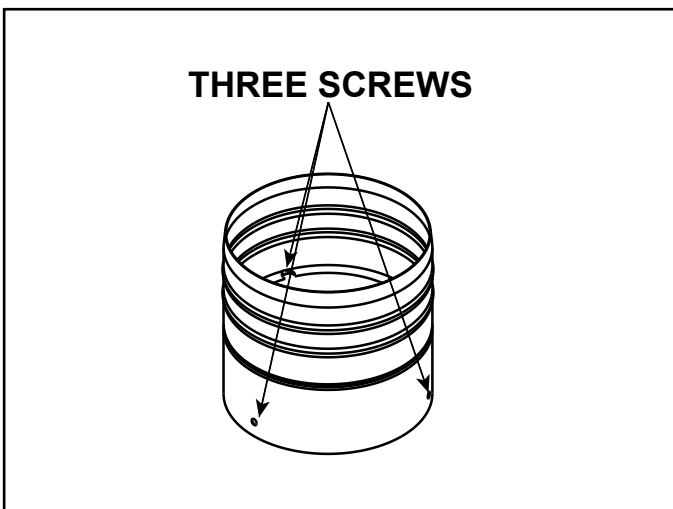
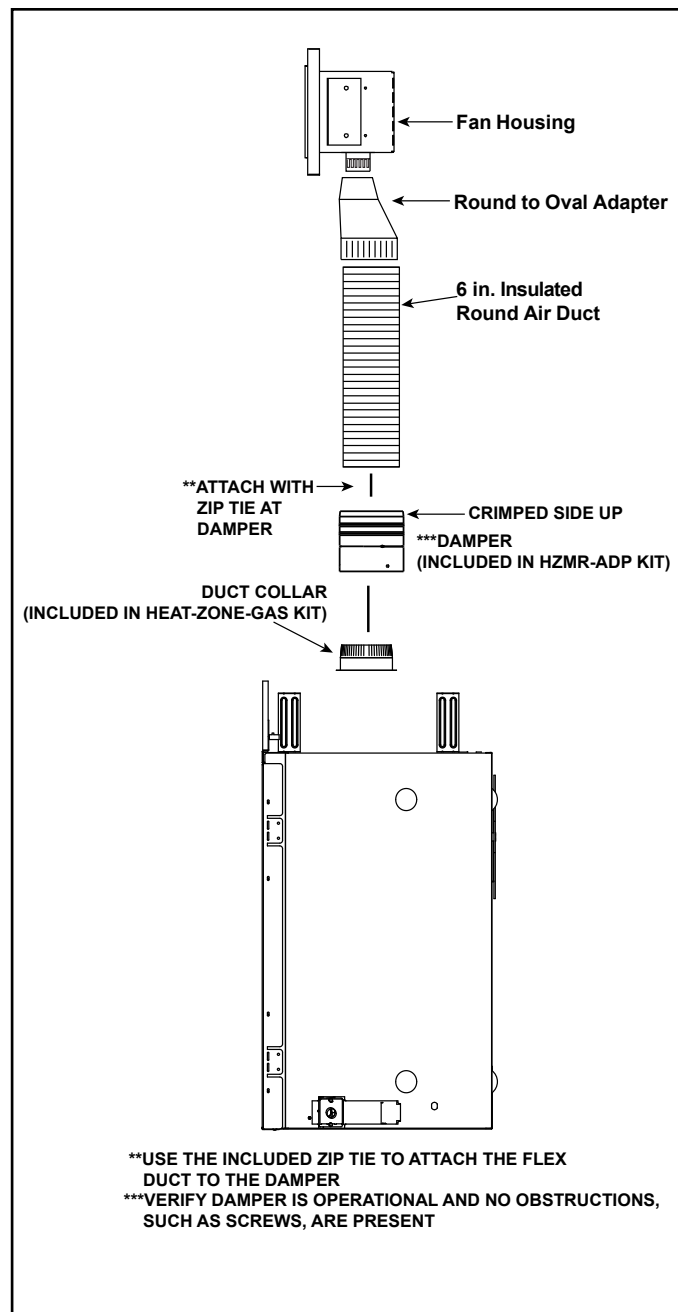

Figure 2 Install Damper with Three Screws
Figure 3 Assemble the Heat-Zone®-Gas Components
- Center the duct collar, included with the HEAT-ZONE-GAS kit, around the open hole and attach it to the appliance with 3 screws included in the Heat-Zone-Gas kit. See Figure 3.
- Attach the damper, included in the HZMR-ADP kit, to the HEAT-ZONE-GAS duct collar with the three screws included in the kit. Install damper with the crimped side up as shown in Figure 3. Figure 2 shows screw locations on damper.